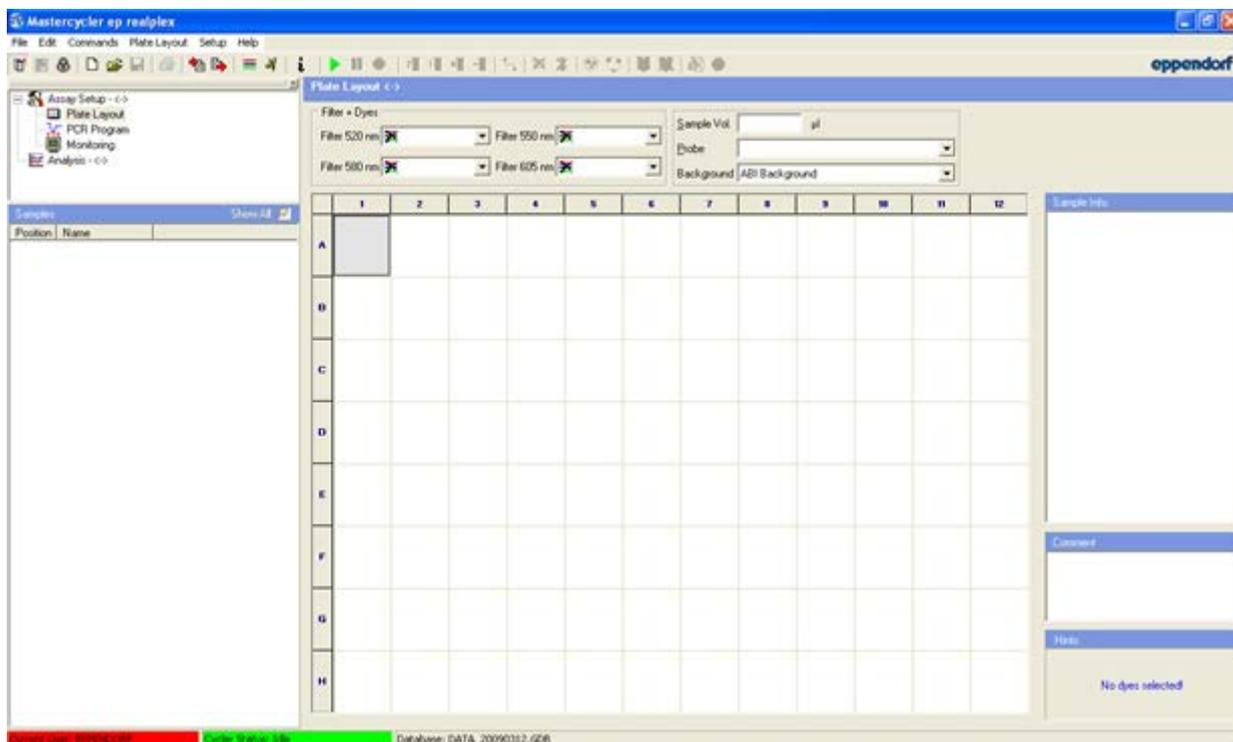

Figure 1. Plate layout window.
- Enter Username and Password when the Login dialog box appears and click OK to proceed with the login. The Plate Layout window (Figure 1) will appear.